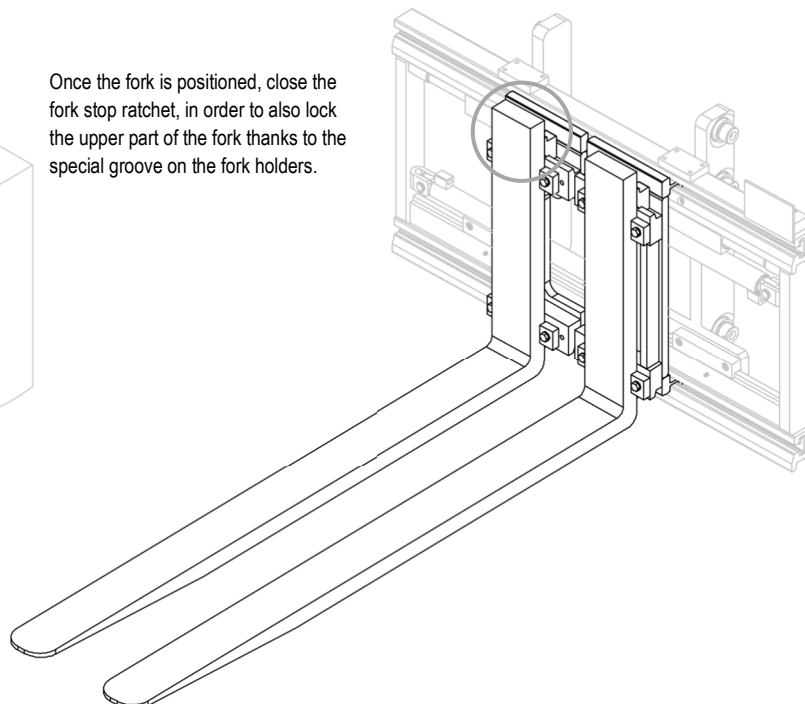

Figure 14
3. After installing the forks, reposition the fork stops in the most appropriate position (see *Figure 14*).